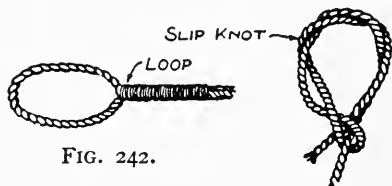

FIG. 242.
**The Bow-string.** — A cord with as little elasticity as possible should be used for this. If you care to spend the money for it, a good cotton string can be purchased from a dealer in archery goods for twenty-five cents. With a home-made bow-string, a loop should be made in one end and bound with thread, as shown in Fig. 242. Slip the loop over the upper notch, bend the bow until the centre of the string is about five inches away from the handle, and attach the loose end to the lower notch by means of a slip-knot similar to that shown in Fig. 243. The bow should be sand-papered until smooth, and thoroughly oiled with linseed-oil. A piece of velvet about three inches wide should be glued about the centre for a handle.